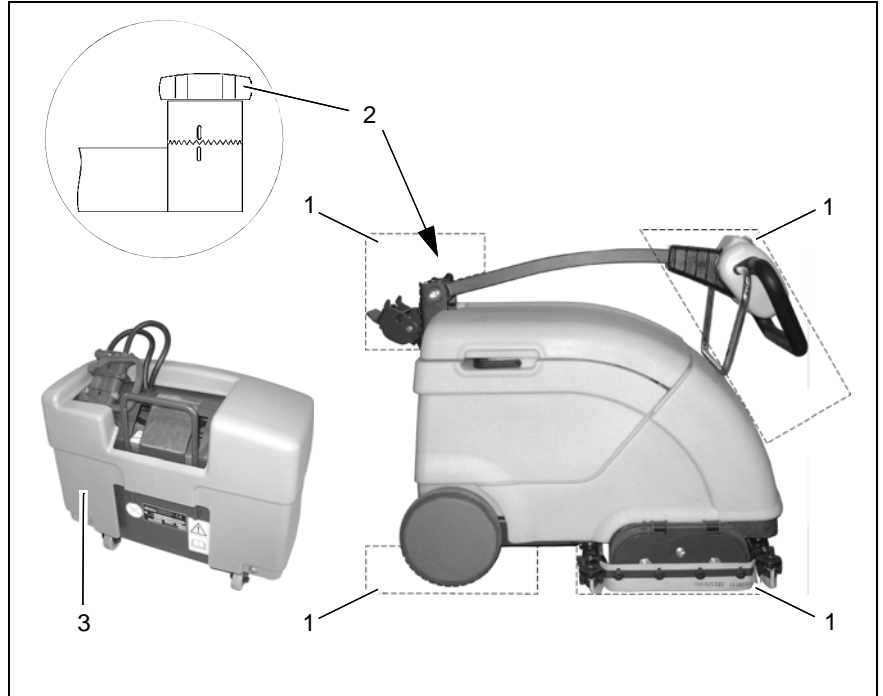

Fig.2
2. Remove the insulation blocks (Fig. 2/ 1).
3. Loosen the adjusting knob (Fig. 2/2) and move the steering shaft to its operating position (guide marks facing each other). Screw the adjusting knob tight again.
4. Remove the Power Pack (Fig. 2/3) from the packaging.